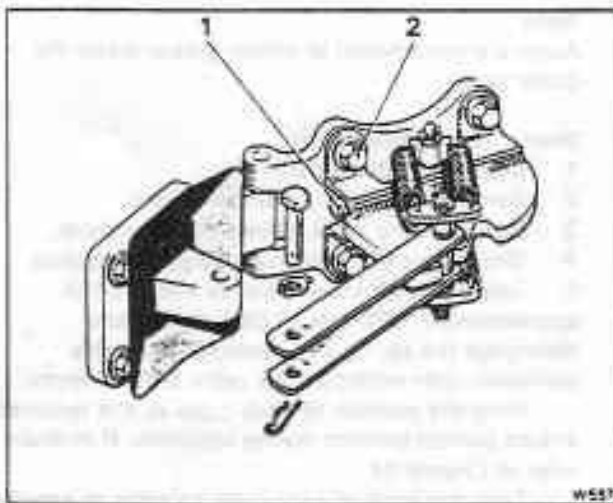

Fig. S4-3 Lower door hinge and check mechanism
6. Remove the spring clip securing the check strap pin. Tap out the pin until it clears the hinge; release the check strap (see fig. S4-3).
5. Release the bolts securing the check hinge mechanism to the door hinge (see fig. S4-3). Remove the mechanism through the aperture in the front face of the door.